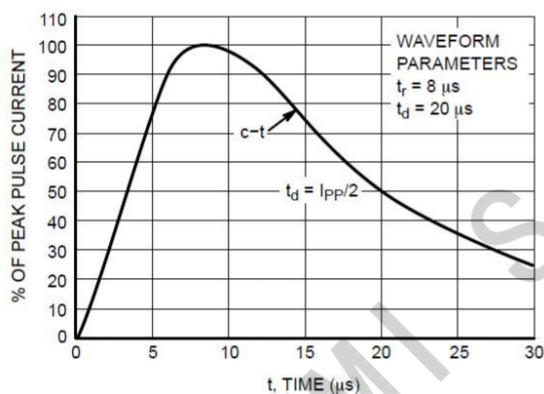

Figure 1. Pulse Waveform, $8 \times 20 \mu\text{s}$
1.Non-repetitive current pulse per Figure1.
4.Pulse waveform per Figure1.